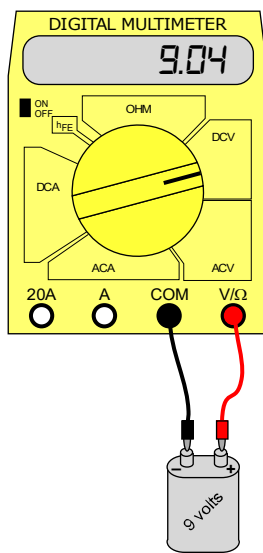
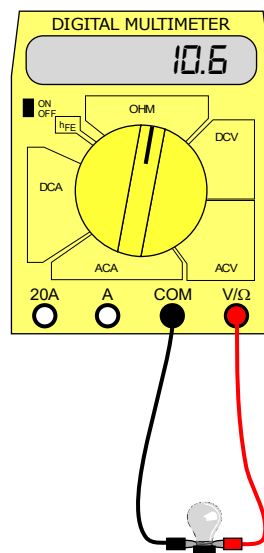
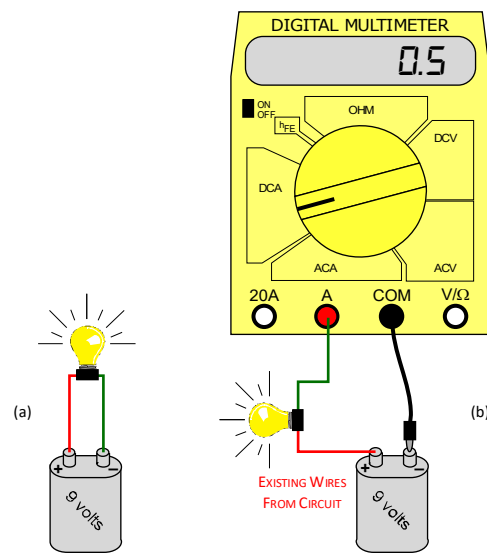

Figure 3
Figure 4
Figure 5
When the multimeter is used as a voltmeter or an ohmmeter, you will insert *two* wires into the meter: one in the **COM** port, the other in the **V/Ω** port, as shown in *Figures 3* and *4* below. Turn the knob to the appropriate setting and voltage type before touching the circuit element. *Figure 3* shows the voltage measured across a 9-volt battery. Note the orientation of the meter wires with respect to the positive and negative terminals of the battery; reversing the meter wires will produce a negative voltage reading. *Figure 4* shows the resistance measurement of a bulb; note that the meter wires are connected in the same manner.
Figure 5a shows a simple circuit consisting of a bulb connected to a battery with two wires (red and green in the figure). Measure the current through this circuit by setting the multimeter to an ammeter (*Figure 5b*): Turn the multimeter knob to the appropriate setting, and place a *third* wire into the **COM** port. Disconnect the (green) wire from the battery, and insert its free end into the **A** port. (Note that the battery polarity in *Figures 5* have been reversed from *Figure 3* to simplify the picture!)
- a. *Measure the voltage of a 9-volt battery:* Set the multimeter to the “20 DCV” setting so that the meter will measure DC voltage. Touch the red meter wire to the positive terminal of the battery, the black meter wire to the negative terminal and record the value (see *Figure 3*). Reverse the wires on the battery (red to negative terminal, black to positive), record the measured value and note the difference. (*Note:* you’ll be measuring a used battery, so the measured voltage may be lower than expected!)